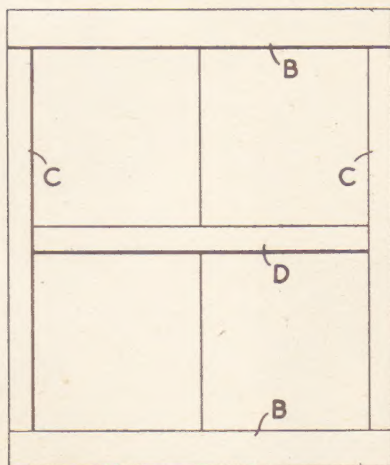

Fig. 1—The framework
This centre panel is completed on a framework as shown at Fig. 1. Two pieces 19ins. by 8ins. wide are glued flat together, and then a framework of battens (B), (C) and (D) put on the back, glued firmly with their edges flush. The side ones (C) come between the top and